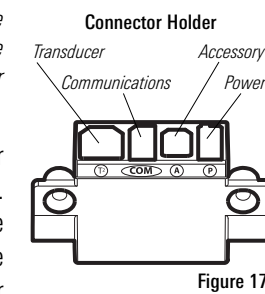

Figure 17
1. Insert both the power and the transducer cable plugs into the connector holder. The cable plugs are labeled, and there are corresponding labels on the connector holder (Figure 17). The slots for the plugs are keyed to prevent reversed installation, and insertion should be easy - do not force plugs.